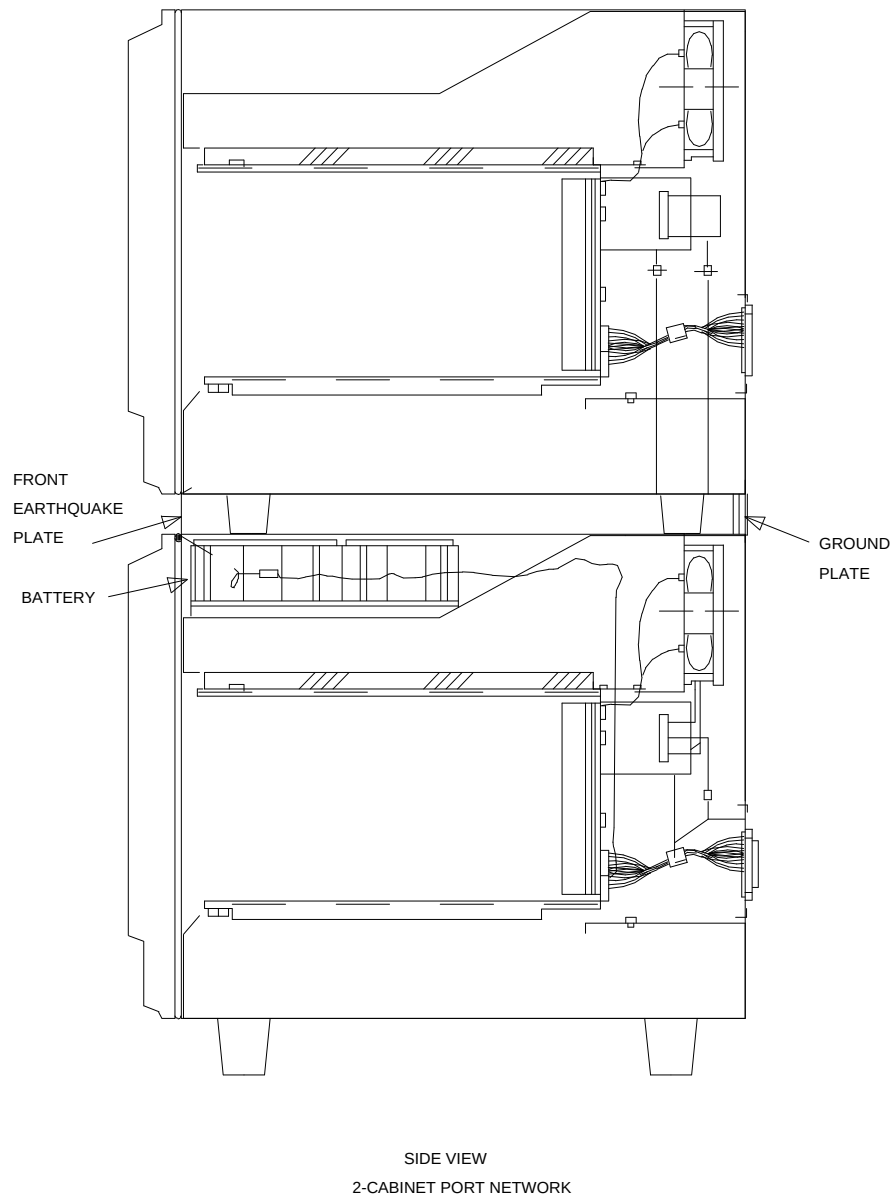

Figure 12-42. Locations of Ground Plate, Earthquake Front Plate, and Battery
6. At the front of the cabinet line up the earthquake front plate with the holes at the top and bottom of the cabinet (see Figure 12-42). Install the eight screws but do not tighten.